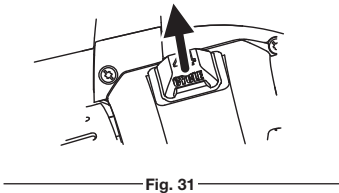

Fig. 31
2. Open the spark plug cover (Fig. 31).